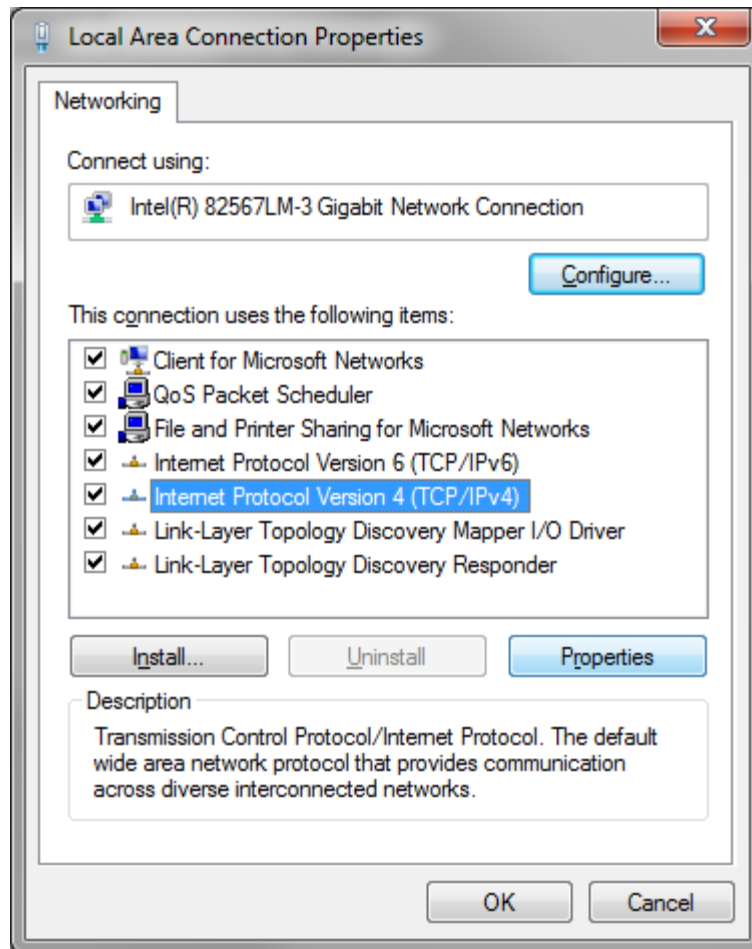

Figure 39 - LAN Properties
- Select the “Internet Protocol Version 4 (TCP/IPv4)” or in the case of an XP system “Internet Protocol (TCP/IP)” and then click on the “Properties” button as shown in Figure 39.